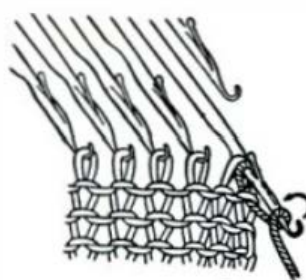

Fig. 67
- b. Raise the needle with the two stitches so that the stitches fall behind the latch of the needle. (See Fig. 67)
- c. Place yarn in front of latch and manually pull needle back to form a single stitch. (See Fig 67)